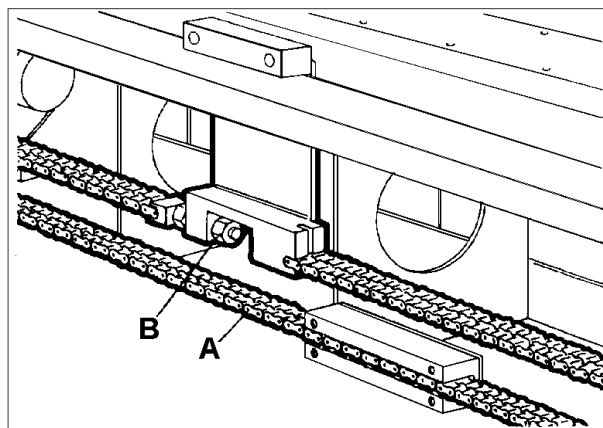

fig.7.1
- b.1) Check the right tension of the chain (A) and eventually adjust by means of the adjusting screw (B) (see fig. 7.1). Lubricate with grease.